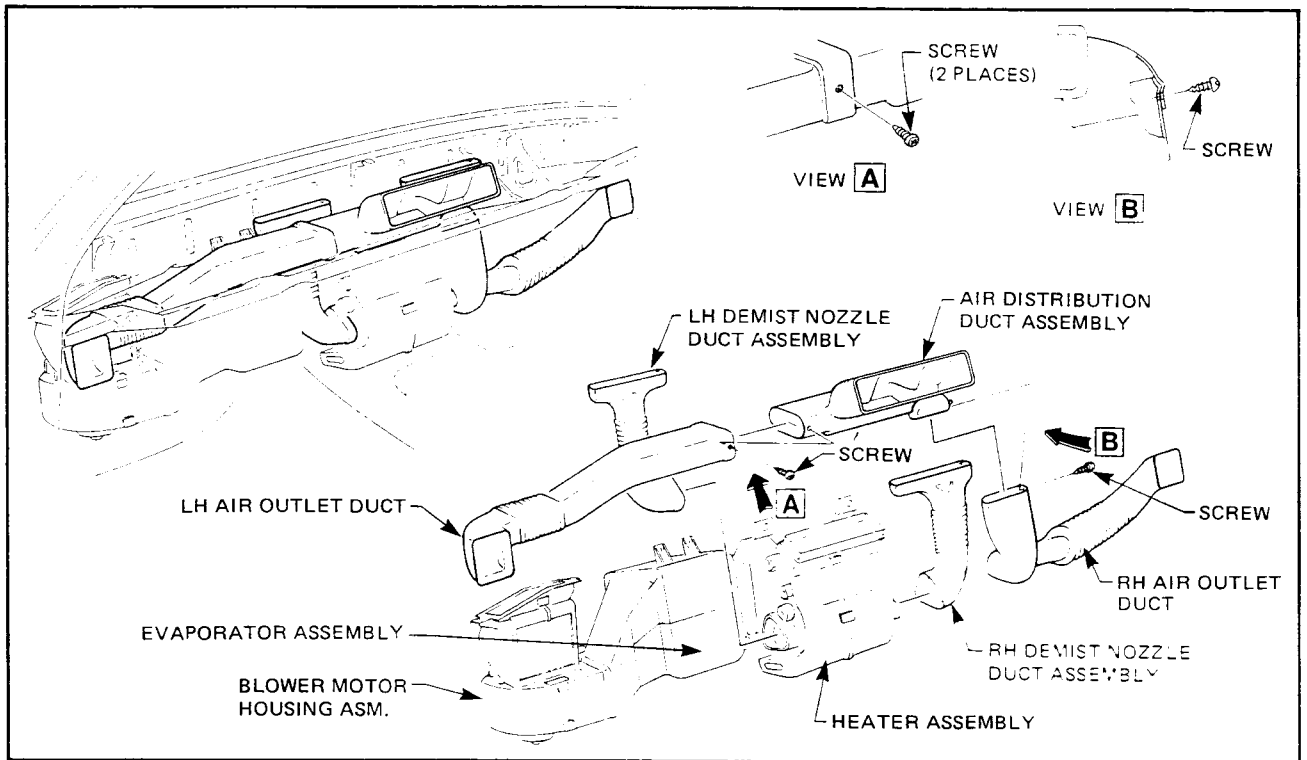

Figure 2B-31
6. Remove combined instrument assembly illustrated in Fig. 2B-30.